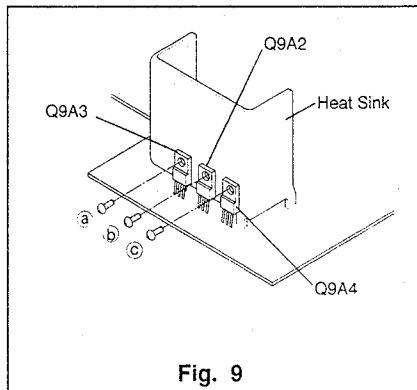

Fig. 9
- ⑥ To service the component side, remove three screws (⑧, ⑨ and ⑩: 669D222O90) retaining the Heat Sink shown in Fig. 9.